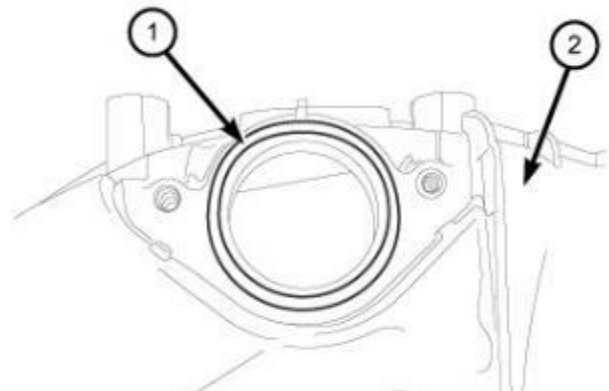

Figure 63 - Upper EGR Tube O-ring at Intake Manifold
- Tighten the union nut (1) to 5 N·m (44 in. lbs.) plus an additional 75 degrees turn.
- Tighten the union nut (3) to 11 N·m (8 ft. lbs.) plus an additional 75 degrees turn.
77. Install a **NEW** O-ring gasket (1) onto the intake manifold (2) (Figure 63).